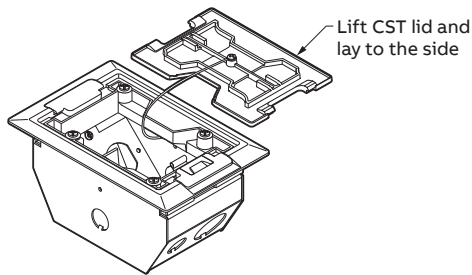

Figure 5
2. Lift CST lid and lay to the side (Figure 5).